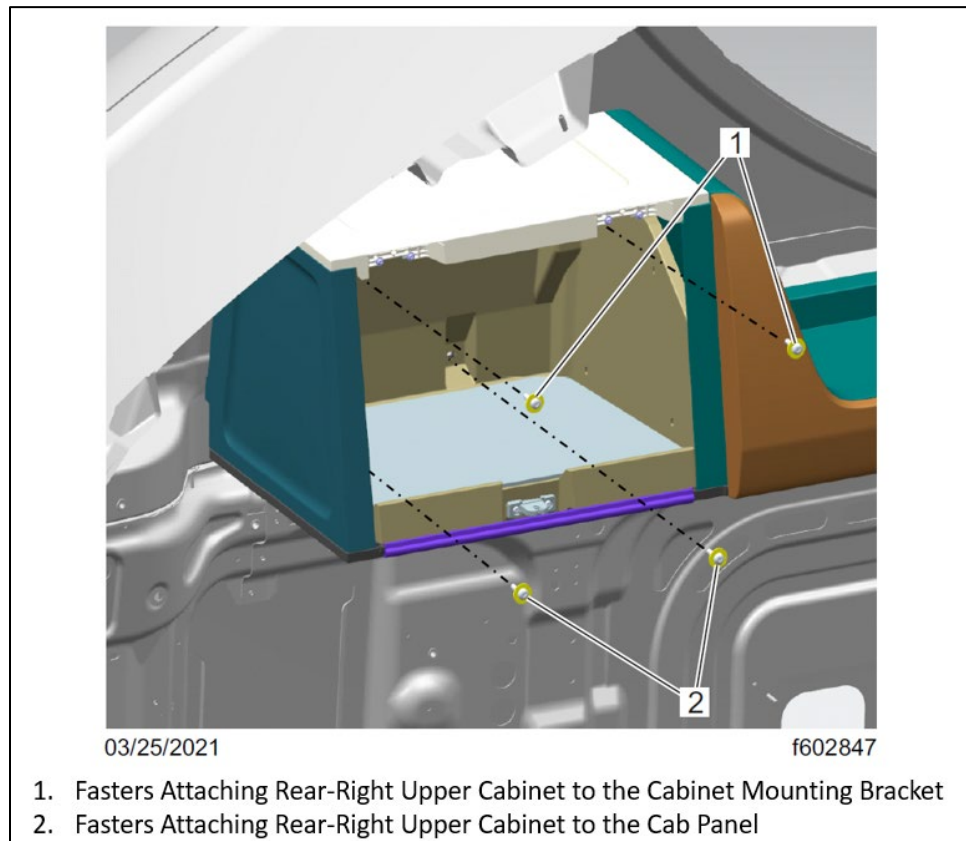

Fig. 43, Fasteners That Attach the Rear-Right Upper Cabinet to the Upper-Rear Shelf and Cab Panel
- 7.1. Remove the four fasteners that attach the rear-right upper cabinet to the cabinet mounting bracket and the cab panel. See Fig. 43.